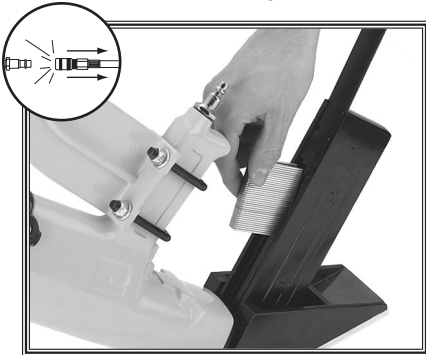

Figure 2. Loading staples into stapler.
3. Load a staple stick into the magazine T-slot, as shown in **Figure 2**.